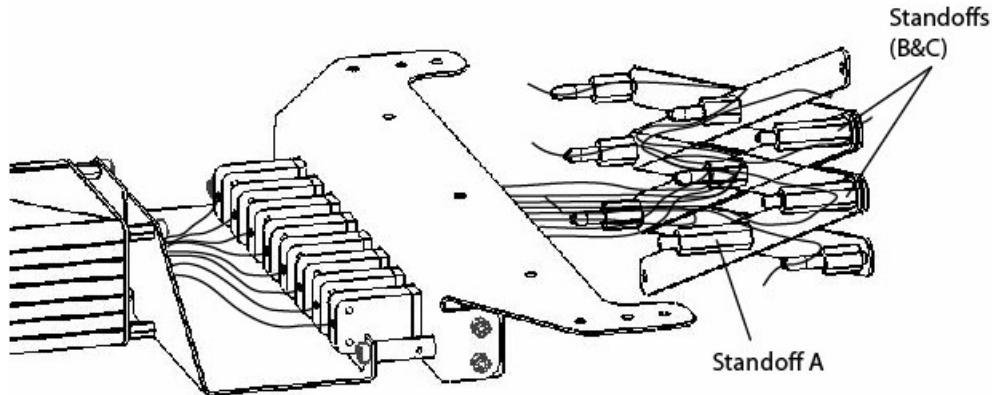

Figure 6. TC-Bridge deployment
3. Carefully rotate the TC-Bridge spreader mechanism out of the plane such that the standoffs point directly toward ThermoBlade as shown in Figure 6.
4. Fold the TC-Bridge spreader mechanism until all members are parallel to each other, as shown in Figure 6.